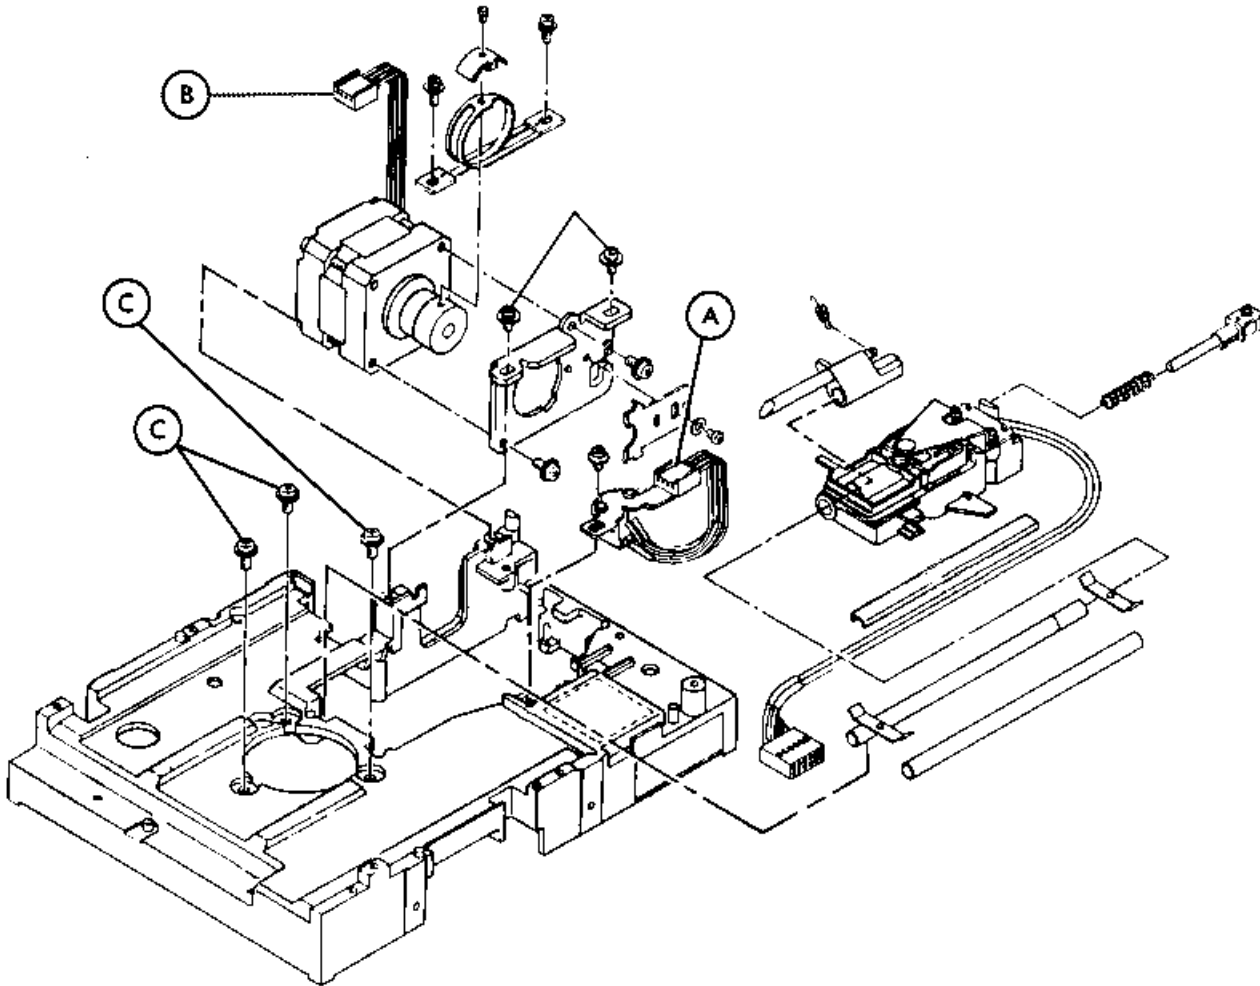

FIGURE 4-14. MOTOR CONTROL BOARD REMOVAL/REPLACEMENT
4.3.15 Motor Control Board and Drive Motor Removal (Figure 4-14)
4.3.16 Motor Control Board and Drive Motor Replacement (Figure 4-14)